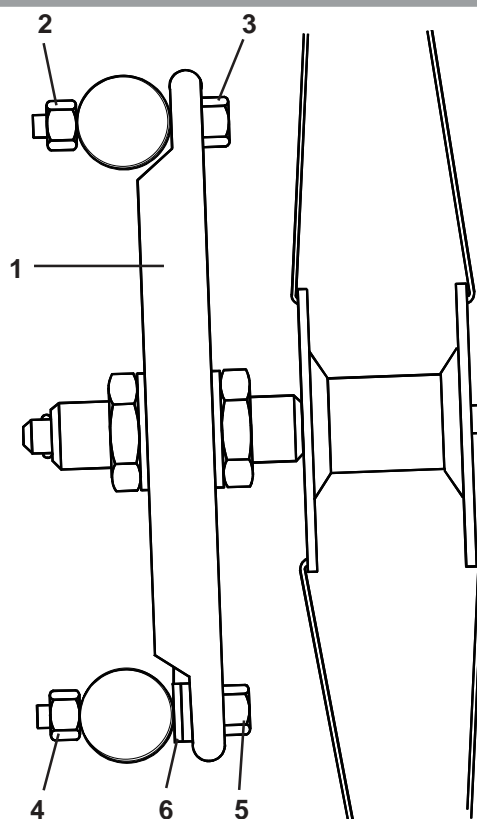

Fig. 41
The rear wheel camber is preset at the factory at 2° (Fig. 41), but it can be adjusted by loosening the axle plate (1) top retaining nuts (2) and screws (3) and removing the bottom retaining nuts (4) and screws (5) ensuring that the camber washer (6) is retained. Insert an additional camber washer and re-assemble using 10mm A/F spanners, tightening the nuts and screws to 8-10Nm torque.